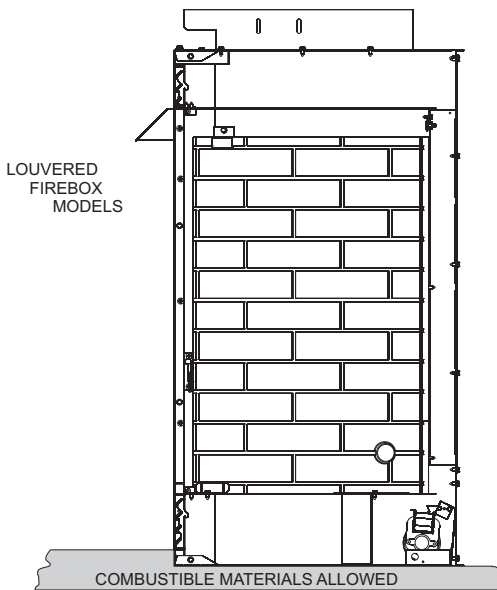

Figure 4
3. Recessed into the floor as illustrated by **Figure 4**.
4. Supported under all (4) corners of the firebox so that contact is made on all four perimeter edges on the bottom of the unit (Example: Four (4) concrete masonry blocks).